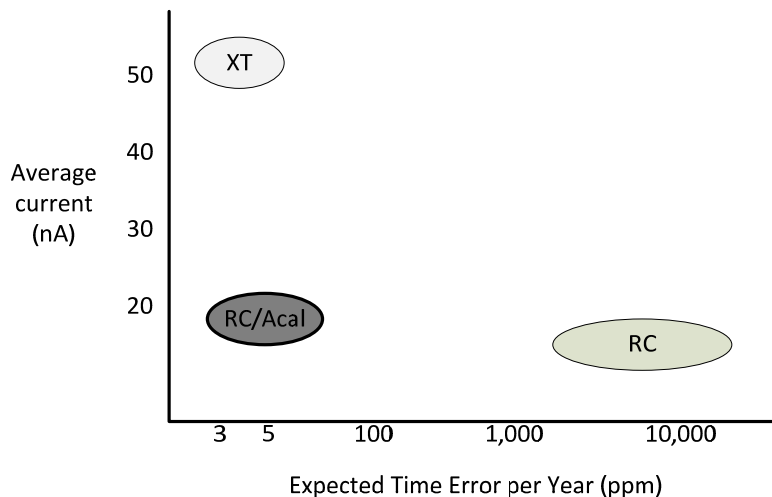

Figure 1 – Basic Mode Comparison
The Ambiq AMX8X5 includes the capability of using the internal RC Oscillator for all timing functions. For increased accuracy at a small power penalty, the RC Oscillator may be periodically calibrated to the external Crystal (XT) Oscillator which is turned on only during this calibration. The overall process is referred to as Autocalibration and under most conditions produces a clock with long term accuracy essentially indistinguishable from the XT Oscillator alone, as shown in the RC/Acal bubble in Figure 1. This document describes the procedures for configuring Autocalibration and presents analyses of the expected clock accuracy and power dissipation.